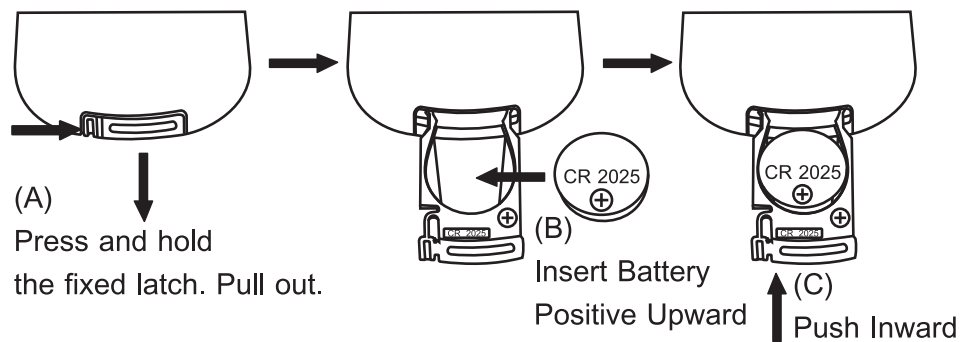

Fig. 18
### (G) Insert Battery to Remote Control, Fig. 18:
- (1) Press down on the small left fixed latch and hold the right side of the battery seat groove gently to pull out the battery holder.
- (2) Insert the new battery with the positive upward and gently push the battery holder inward to position it.
- (3) Note: When using the remote control, the best reception distance is 3 meters from the remote control to the receiving hole on the control panel (effective distance is 5 meters). The battery of remote control is CR2025 3V battery.